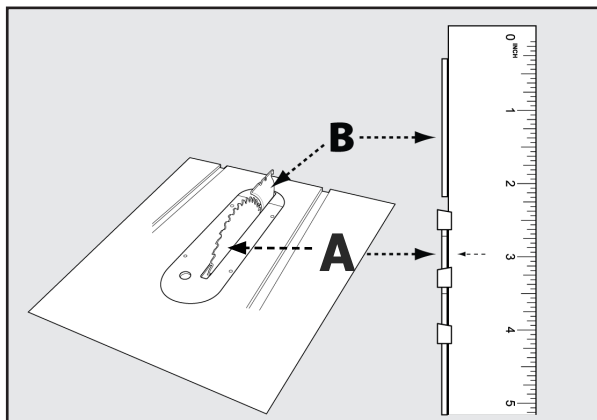

FIGURE 20A
1. **Horizontal Alignment:** Lay a straight edge on the table against blade face (A) and make sure it extends out along the riving knife (B), as shown in Figure 20a. The riving knife should just touch the straight edge. Be sure the straight edge goes between the teeth and rests on the blade face and the riving knife for proper alignment.